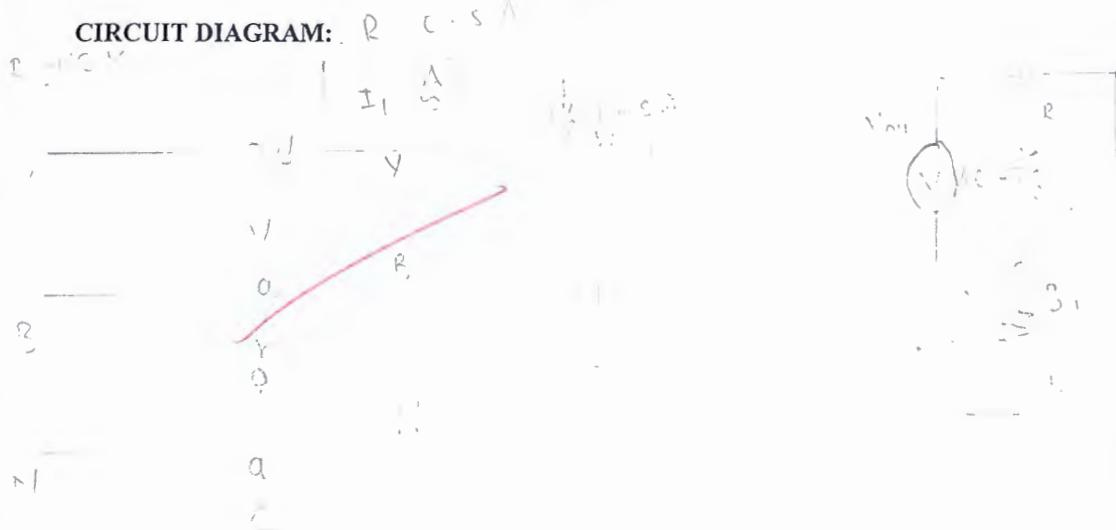

Figure 8.3
- ❖ Connect the circuit as shown in figure 8.3.